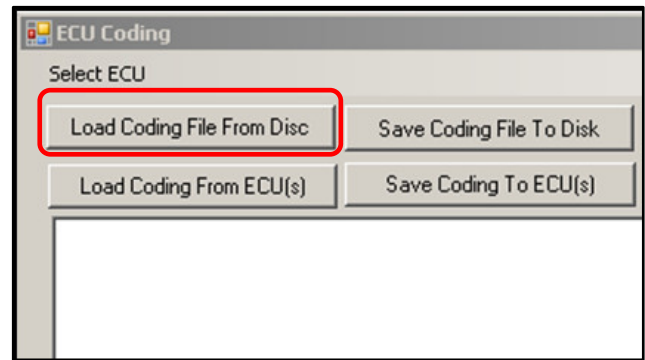

Figure 3
11. Select "Load Coding File From Disc" (refer to Figure 3).